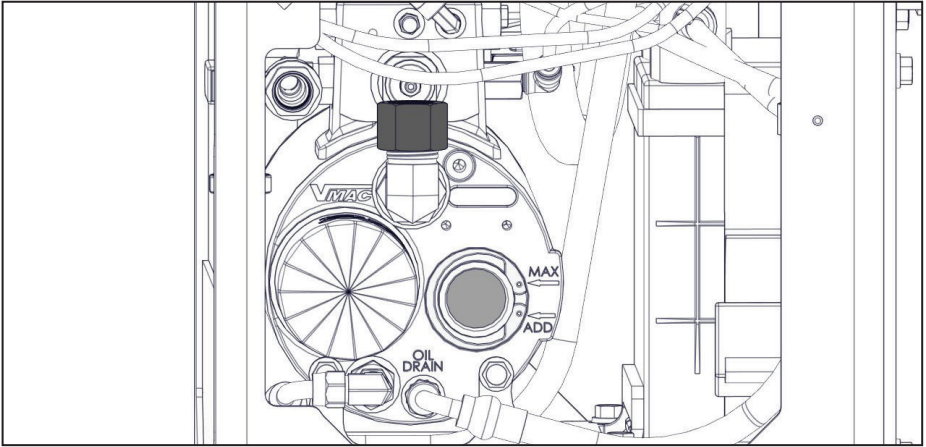

Figure 33 — Compressor oil fill
- Remove the filler cap on the WHASP Tank. Fill the WHASP Tank with VMAC compressor oil until it reaches the "MAX" mark. The air compressor system holds approximately 4 L (1 USG) of oil (Figure 33).